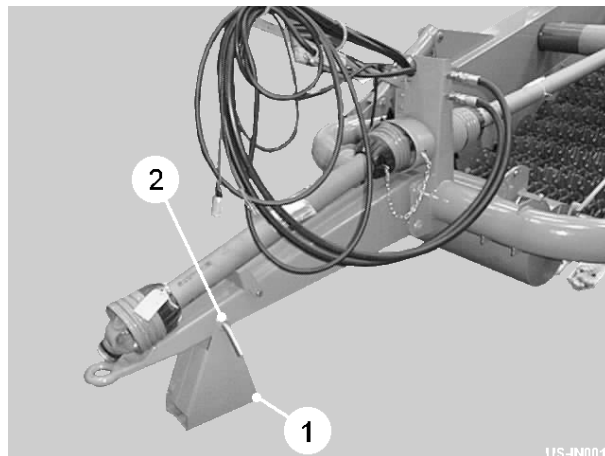
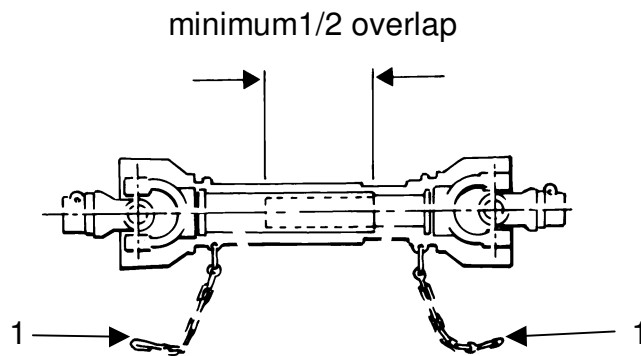

Fig 1
Fig 3
The jack stand (item 1, fig 1) is provided so that the machine is held at a suitable height for safe coupling to the tractor.
When the machine has been securely attached to the tractor, the jack stand can be folded back into the stored position by removing the anchor pin (item 2, fig 1), rotating the stand and then securing it with the anchor pin.
Fit the two halves of the PTO shaft onto their respective drive shafts on the machine and tractor. Check the shaft length by turning the tractor fully in both directions with the machine in its working position while attached to the tractor's pick-up hitch. Ensure the sliding tubes, when fully extended, have an overlap at least half the closed length (see figure 3). Ensure that the ends of the sliding tubes when at the shortest point are not in contact with other parts of the PTO shaft. If necessary, shorten both tubes and guards equally to achieve end clearance at the minimum length position.
Ensure that the safety chains (item 1, fig 3) used to prevent the guards from turning, are fixed to the tractor and implement in such a way that they will not be stretched when the drive shaft is at maximum articulation. When disconnected from the tractor, position the PTO shaft on the drawbar PTO rest as shown in figure 1.